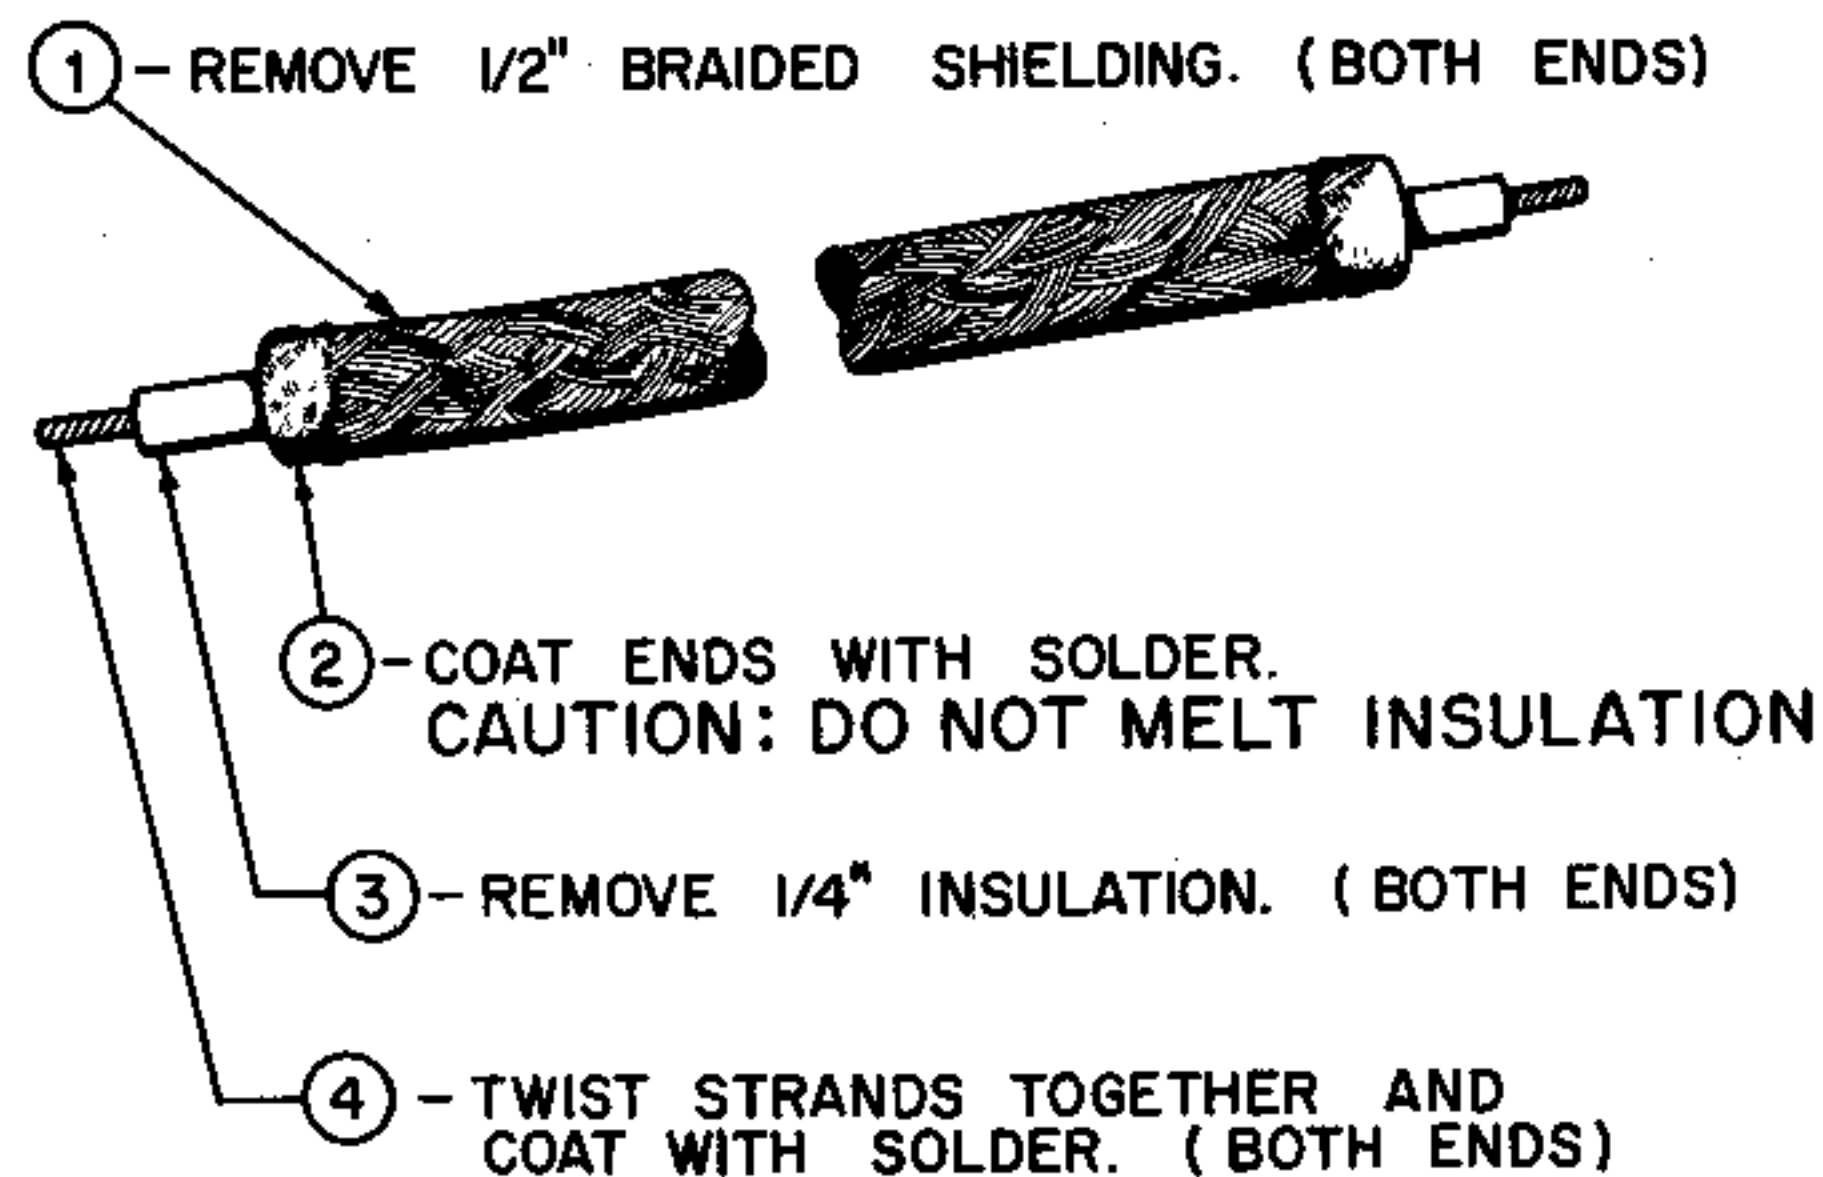

FIGURE 7. PREPARING UNINSULATED SHIELDED WIRES
- ✓ Cut an 8 1/4", an 8", and an 11 1/2" length of **uninsulated shielded** wire. Prepare as shown in Figure 7.
- Cut and prepare a 5" shielded wire as shown in Figure 7.
- Prepare a 6" uninsulated shielded wire as shown in Figure 7.